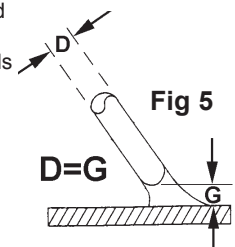
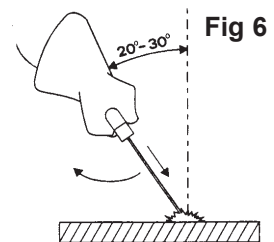

Fig 5
Fig 6
5.5.5 As soon as the arc is struck maintain a steady gap between the end of the electrode and the workpiece equal to the diameter of the electrode in use (See Fig 5). Try to maintain this gap continuously through out the duration of the weld. The electrode should also be held at an angle of 20° to 30° from the vertical. (See fig.6).